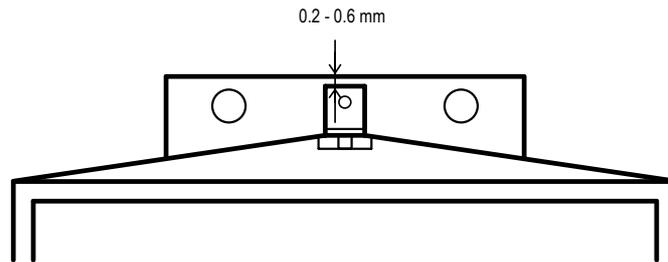

Fig. 2
*The spindle must be 0.2 - 0.6 mm below the edge of the mounting plate (see Fig. 2).*